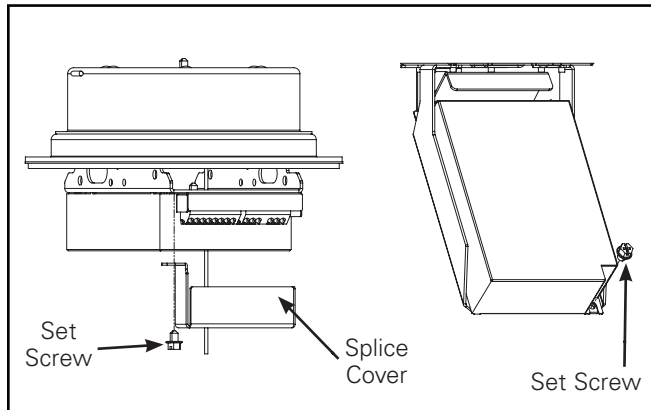

Figure 6.
4. The driver's push in connectors can be accessed by either removing the splice cover or the driver itself from driver bracket by removing the indicated set screw. (Figure 6.)
3. Remove the driver or the splice cover to access the driver push in connectors. (Figure 6.)